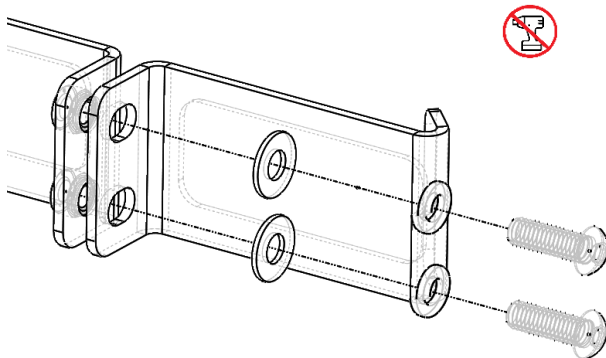

Figure 3: Tension Bar Bracket Hardware
13. Bolt together using two (2) 5/16" fasteners (Figure 3).